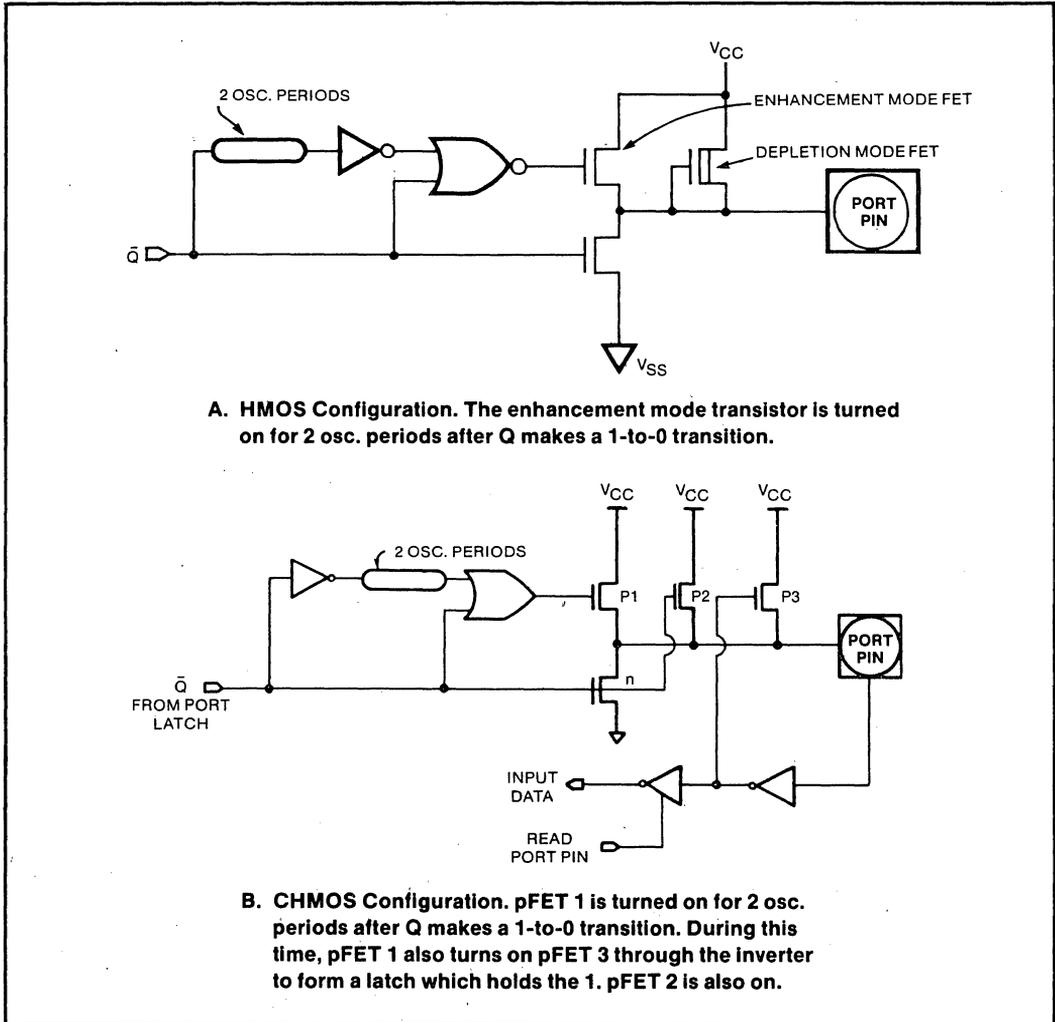

Figure 6-6. Ports 1, 2 and 3 HMOS and CHMOS Internal Pull-up Configurations
* See Figure 6-6 for details of the internal pullup.
If the change requires a 0-to-1 transition in Port 1, 2, or 3, an additional pull-up is turned on during S1P1 and S1P2 of the cycle in which the transition occurs. This is done to increase the transition speed. The extra pull-up can source about 100 times the current that the normal pull-up can. It should be noted that the internal pull-ups are field-effect transistors, not linear resistors. The pull-up arrangements are shown in Figure 6-6.